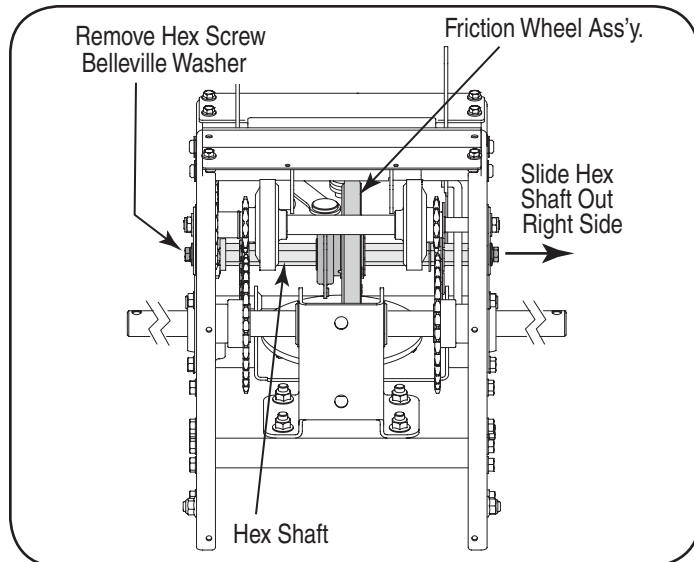

Figure 31
- Using a 3/4" wrench, hold the hex shaft and remove the hex bolts and cupped washer and bearing from left side of the frame. Refer to Figure 31.